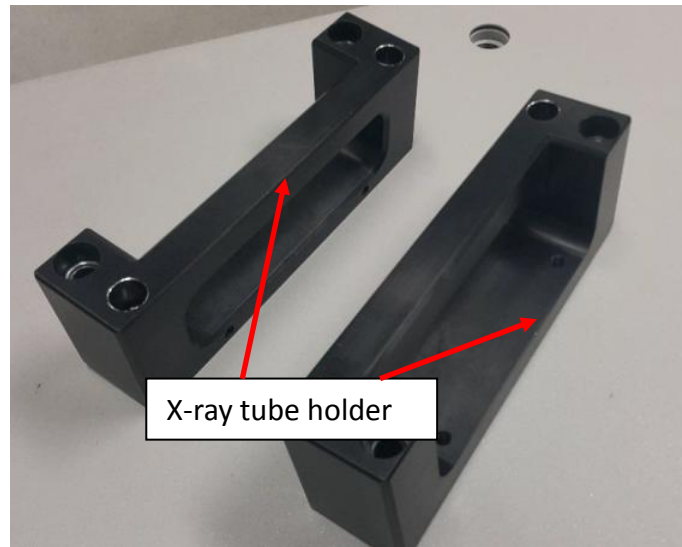

Figure 5 X-ray tube holder (2x)
5. After remove SHCS M5×20 (4x), remove X-ray tube holder as shown in the Figure 5.